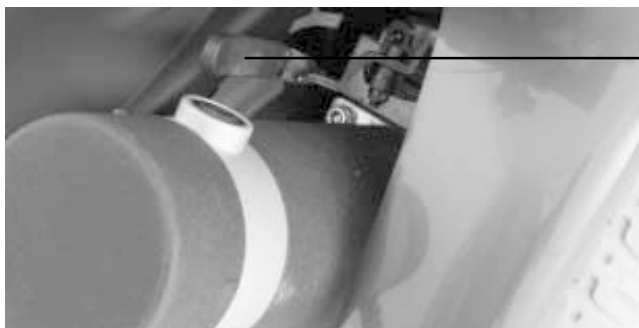

Figure 6. Freewheel Mode (Drive Disengaged)
For your convenience, your Vibe is equipped with two manual freewheel levers. See figures 6 and 7. These levers allow you to disengage the drive motors and maneuver the chair manually.
1. Pull the manual freewheel lever inward for freewheel mode (drive disengaged). See figure 6.